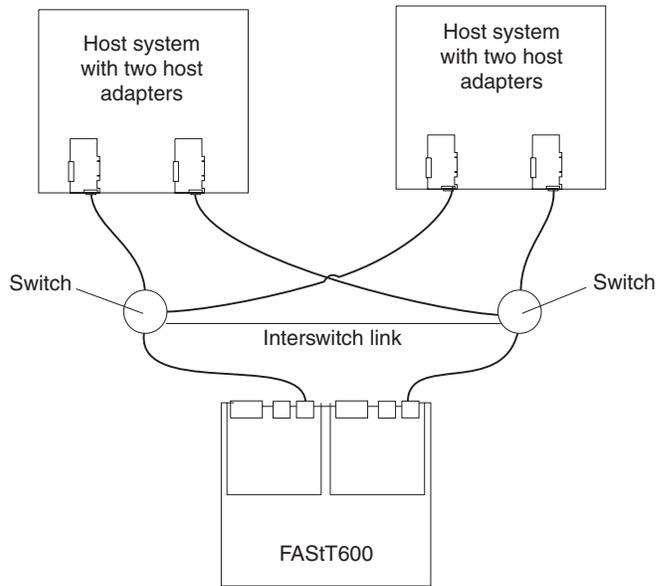

Figure 20. Single SAN fabric zone configuration
- Single SAN fabric zone configuration, as shown in Figure 20 on page 24